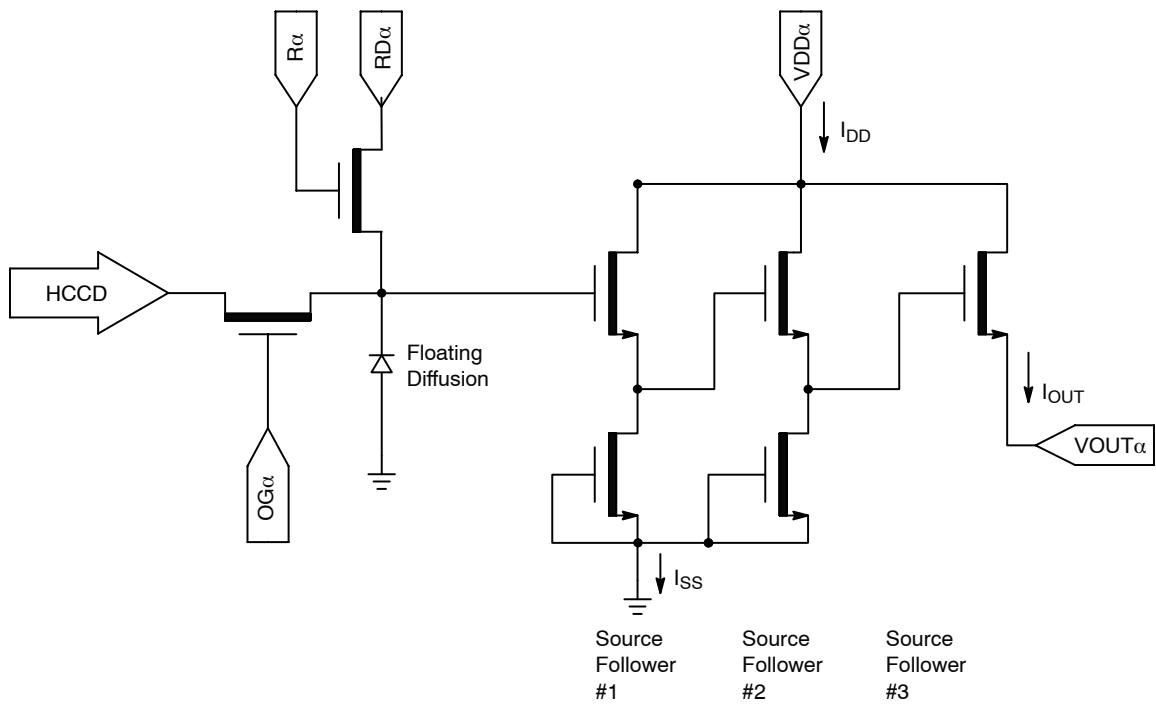

Figure 15. Output Amplifier
- The maximum DC current is for one output.  $I_{dd} = I_{out} + I_{ss}$ . See Figure 15.